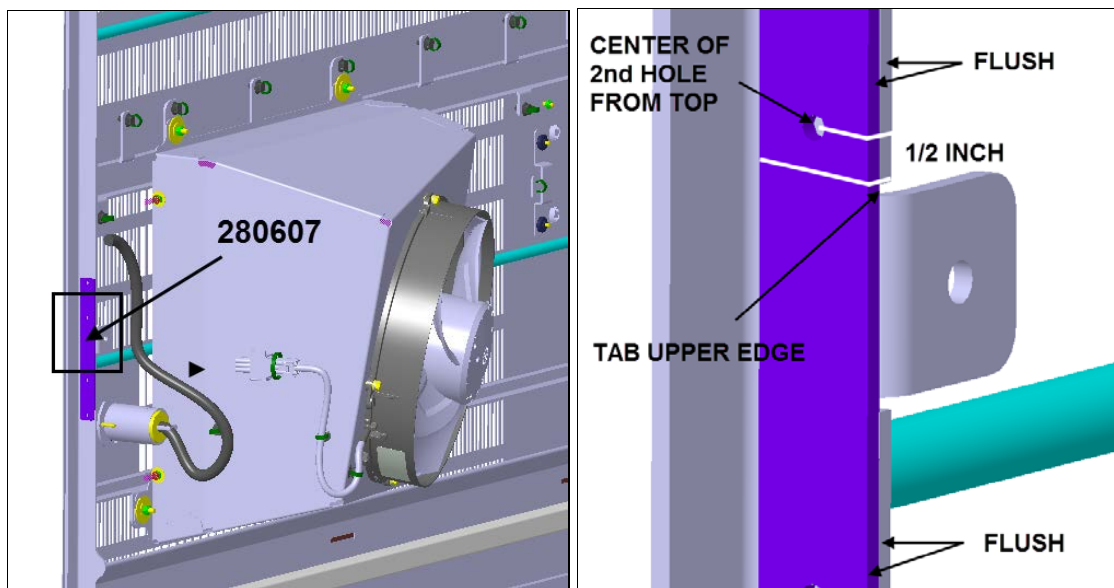

FIG.24 REINFORCEMENT PLATE POSITION
- 4) Position the **280607** door reinforcement plate 2nd hole from the top at 1/2" from the door frame tab upper edge and *flush with the edge* of the frame (Fig.24).